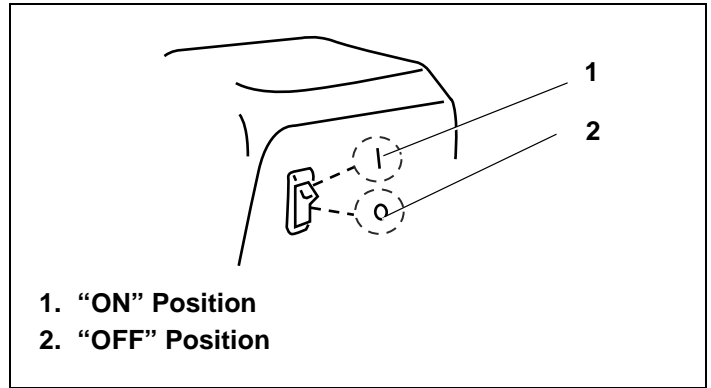

Figure 22. Engine Stop Switch
2. Move engine stop switch or low oil shutdown switch to "ON" position, if present (see equipment manufacturer's instructions). See Figures 22 and 23.